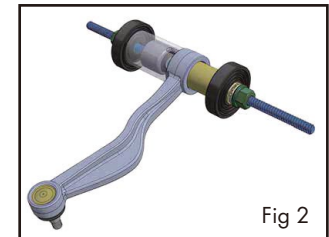

Fig 2
5. Use a spanner to rotate clockwise the nut on pushing sleeve side, and the bearing will be pushed out and fall into the receiving sleeve (Fig 2).